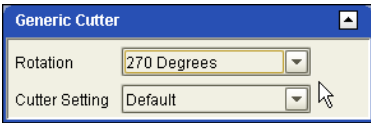

Figure 10—Cutter Settings
2. If you want to change the rotation or apply a different cutter setting, use the mini-arrow in the right-hand corner of the cutter heading. This expands and contracts the rotation and cutter setting options. Use the drop-down arrows to make your selection (see Figure 10).